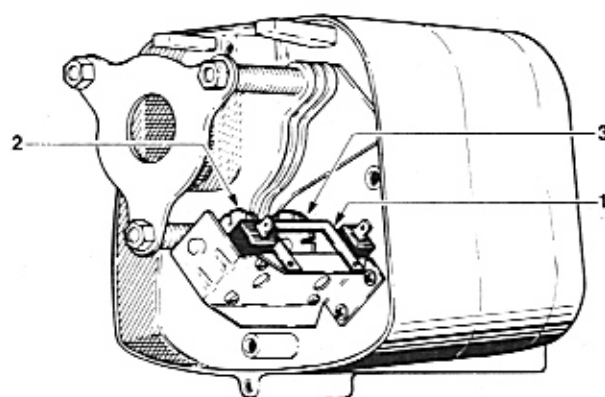

FIGURE 3.
- c. With a screwdriver, push the spring guide plate (#1) out of the slots in the plastic limit switch nuts. Turn the slotted nut nearest you (#2) back to about the center of the threaded screw. Do not disconnect the wires from the limit switches (see Figure 3).
- c. With a screwdriver, pry the spring guide plate (#1) out of the slots in the colored limit switch nuts (#2 & #3). (See Figure 3)
- c. With a screwdriver, push the spring guide plate (#1) out of the slots in the colored limit switch nuts (#2 & #3). (See Figure 3).